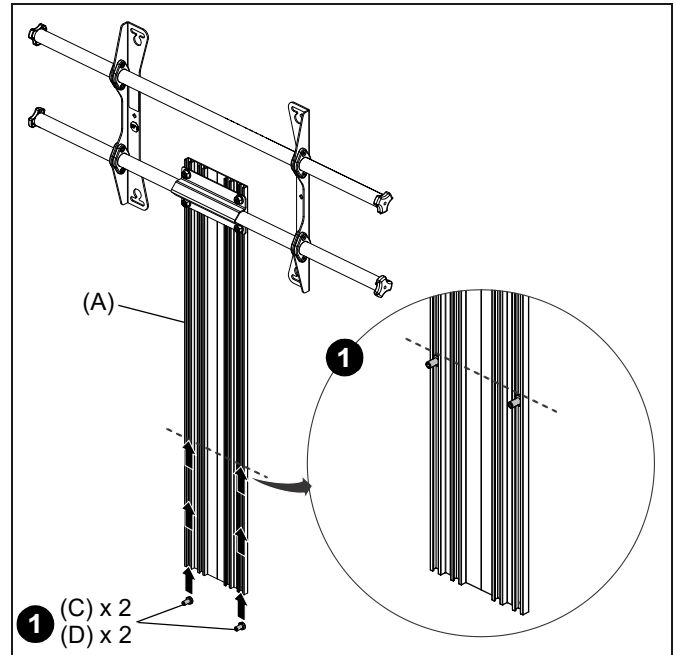

Figure 7
1. Slide two assembled M8 x 20mm screws (C) and M8 nuts (D) up into the outside channels of the upright extrusion (A) until they are in the desired position of the top edge of the storage box (H). Tighten the screws (C) to hold them in the desired position. (See Figure 7)